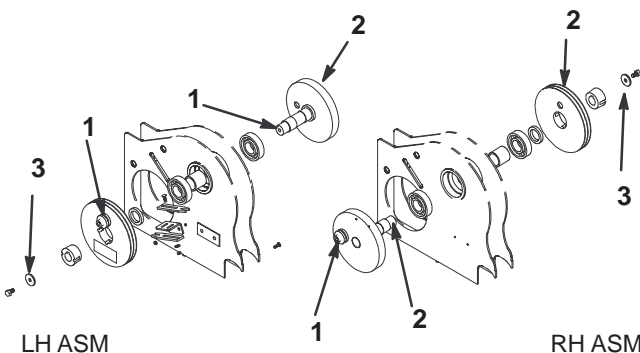

Figure 4
Note: Position left and right-hand threaded bolts as shown in Figure 4.
1. Remove bolt and washer securing taper-lock washer to flywheel (Fig. 4).